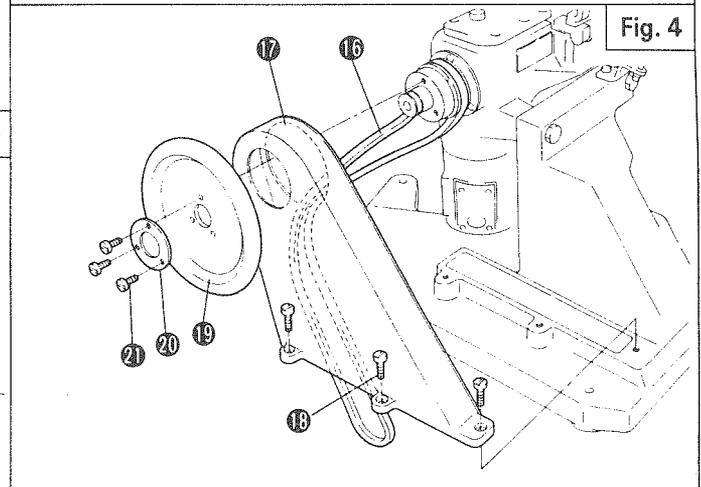

Fig. 4
4. Refer to Fig. 4 and attach Belt ⑯ and Belt Cover ⑰, ⑱ - ⑳ in sequence.